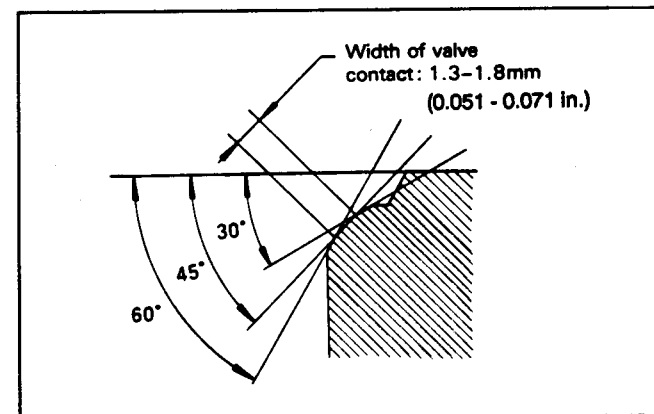

Figure 67
2. The valve seat can be resurfaced (Fig. 67). Resurface the valve seat so it contacts the mid-portion of the valve face.